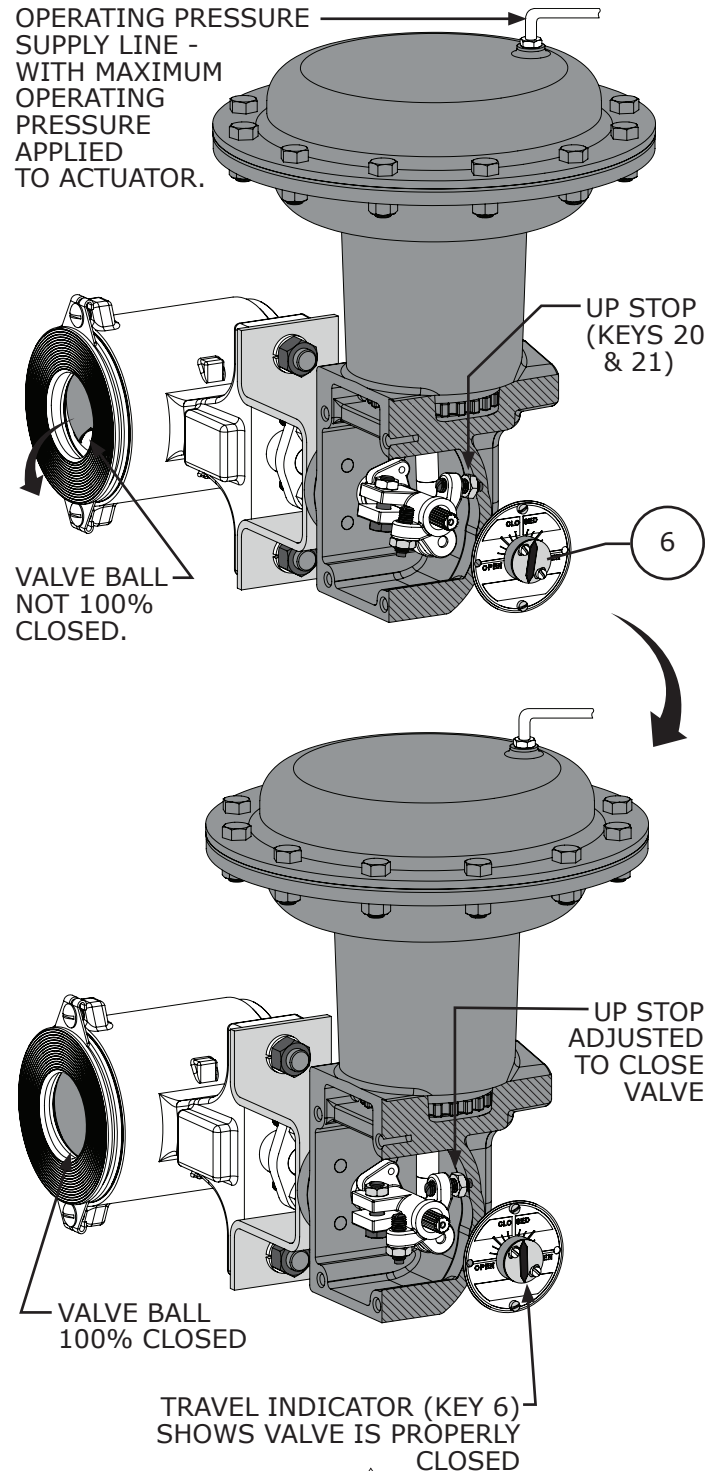

Figure 5 Mounting Adjustment for Push-Down-To-Open
- 13 With the maximum operating pressure applied to the actuator, loosen the jam nut (Key 21) and adjust the down travel stop (Key 20, Figure 5) until the valve ball/disc is in the fully closed or open position as required. Lock the travel stop in place by re-tightening the jam nut.